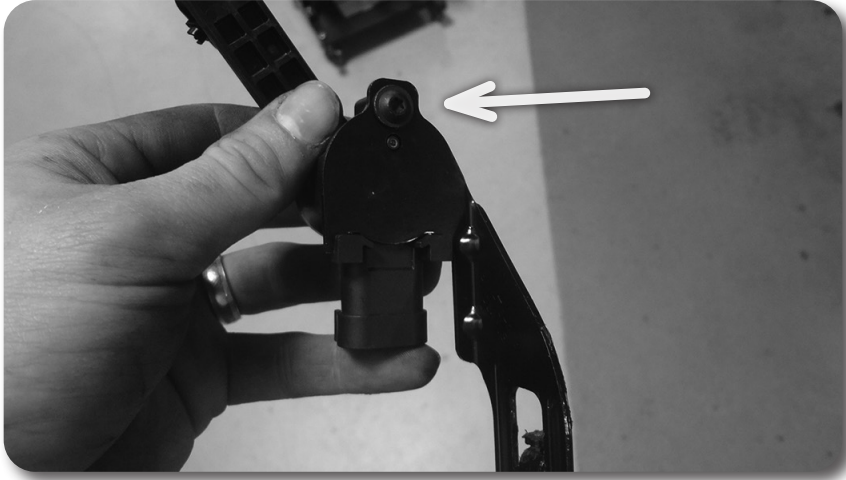

Figure 49
73. **6" Denali Models (ARC Models) Only:** Remove the bracket from the ARC sensor Fig. 49. Install the new bracket to the ARC sensor with the original hardware. The brackets are side specific and look similar to the factory bracket.